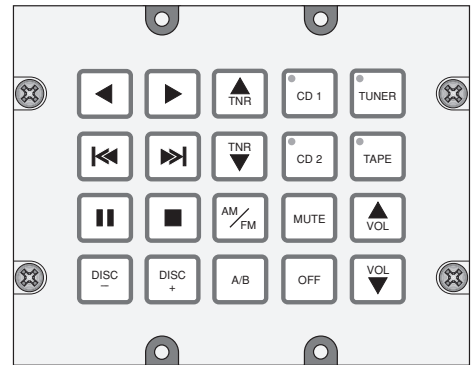

**Fig. 1** 4-Source Waterpad - Model WPK-4
1. Since there are 4 **sources**, 4 banks will be required. We will need the **WPK-4** Waterpad version as shown in **Fig. 1**.